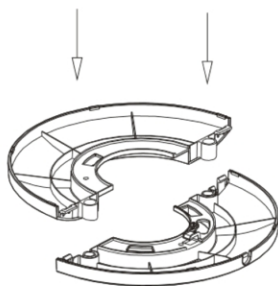

Fig 1
- Put the two halves of the base together. See Figure 1